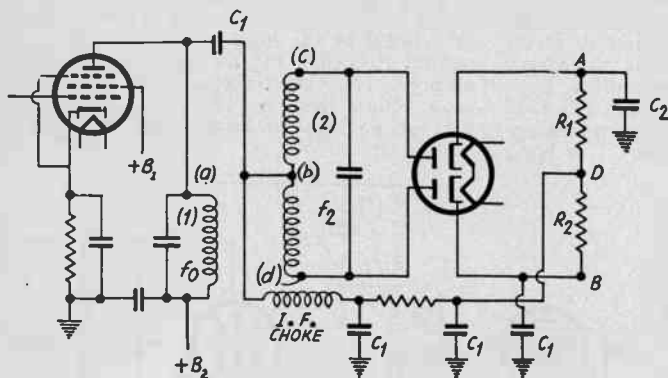

FIG. 3.
The arrangement in a simplified discriminator which has been incorporated in commercial receivers is shown in Fig. 3. The intermediate carrier is delivered by the first tube to the tank circuit (1), which is tuned to  $f_0$ . The coil of this circuit is coupled loosely to another circuit resonant to  $f_0$ . The top point, (a), of the first circuit is connected to the midpoint, (b), of the second circuit, through a condenser  $C_1$ . The second circuit, (2), is connected to the plates of two diode detectors. The voltage at the point
When the frequency of the oscillator in Fig. 4 is to be controlled by the discriminator in Fig. 3, point B is connected to the negative of the fixed bias for the control tube. If no bias is used, or if there is self-bias, this point is grounded. In other cases it may be a point on a common voltage divider.
In every case point A of Fig. 3 is connected to point A on Fig. 4.
It will be observed that the discriminator circuit in Fig. 3 can be used not only for a.f.c. but also for a.v.c. and audio. Point D is always negative with respect to point B. Hence this point corresponds to the negative end of the load resistor in the plain detector, and the grids to be volume-controlled are to be connected to this point. The audio signal voltage can also be taken off this point, or from any point on  $R_2$  between D and B. Indeed,  $R_2$  may be the audio volume control potentiometer. For good audio output the by-pass condenser connected to D should not be too large, say not over 100 mmfd., assuming that  $R_2$  is of the order of half megohm.
The discriminator circuit shown in Fig. 2 can be used for varying the frequency of an oscillator like that in Fig. 4 in exactly the same way as the discriminator in Fig. 3. Its only drawback is that another detector is required for the a.v.c. and the audio. A side circuit discriminator has also been used for varying the frequency electro-mechanically. A balanced relay is put in the output circuit of the dual rectifier in place of the two resistances, and the armature of that relay carries the plate of a small condenser which is in shunt with the coil of the oscillator. When the relay is unbalanced in one direction, the capacity in the circuit is too small but the relay acts to increase it. When the relay is unbalanced in the opposite direction, the capacity in the circuit is too large, but the relay acts to decrease it. The net effect is exactly the same as if the frequency of the oscillator were controlled by means of mutual conductance change as in Fig. 4.